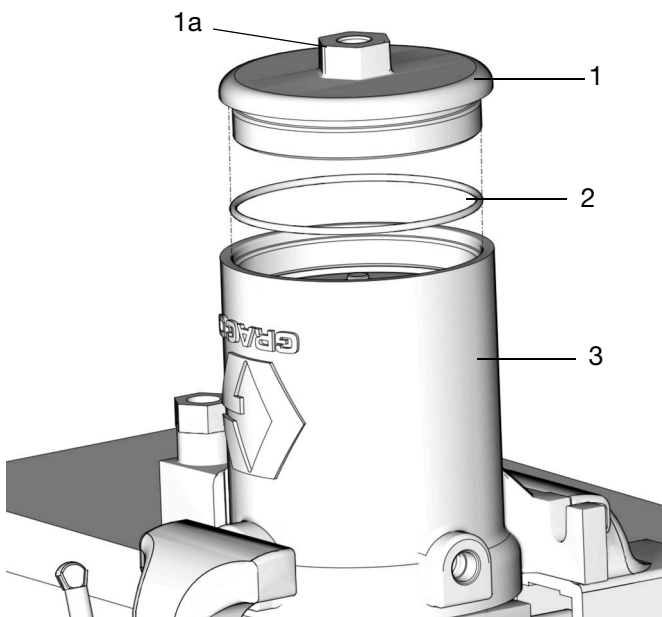

FIG. 34
10. Apply a thin layer of grease to the cover o-ring (2). Install the o-ring to cover (1) (FIG. 34).
11. Install the cover in bottom of air motor cylinder (3). Push on the top of the cover to seat it and compress the spring. Use a wrench on nut (1a) to turn and tighten the cover securely, then torque to 28 to 32 ft-lb (37.9 to 43.4 N•m) (FIG. 34).